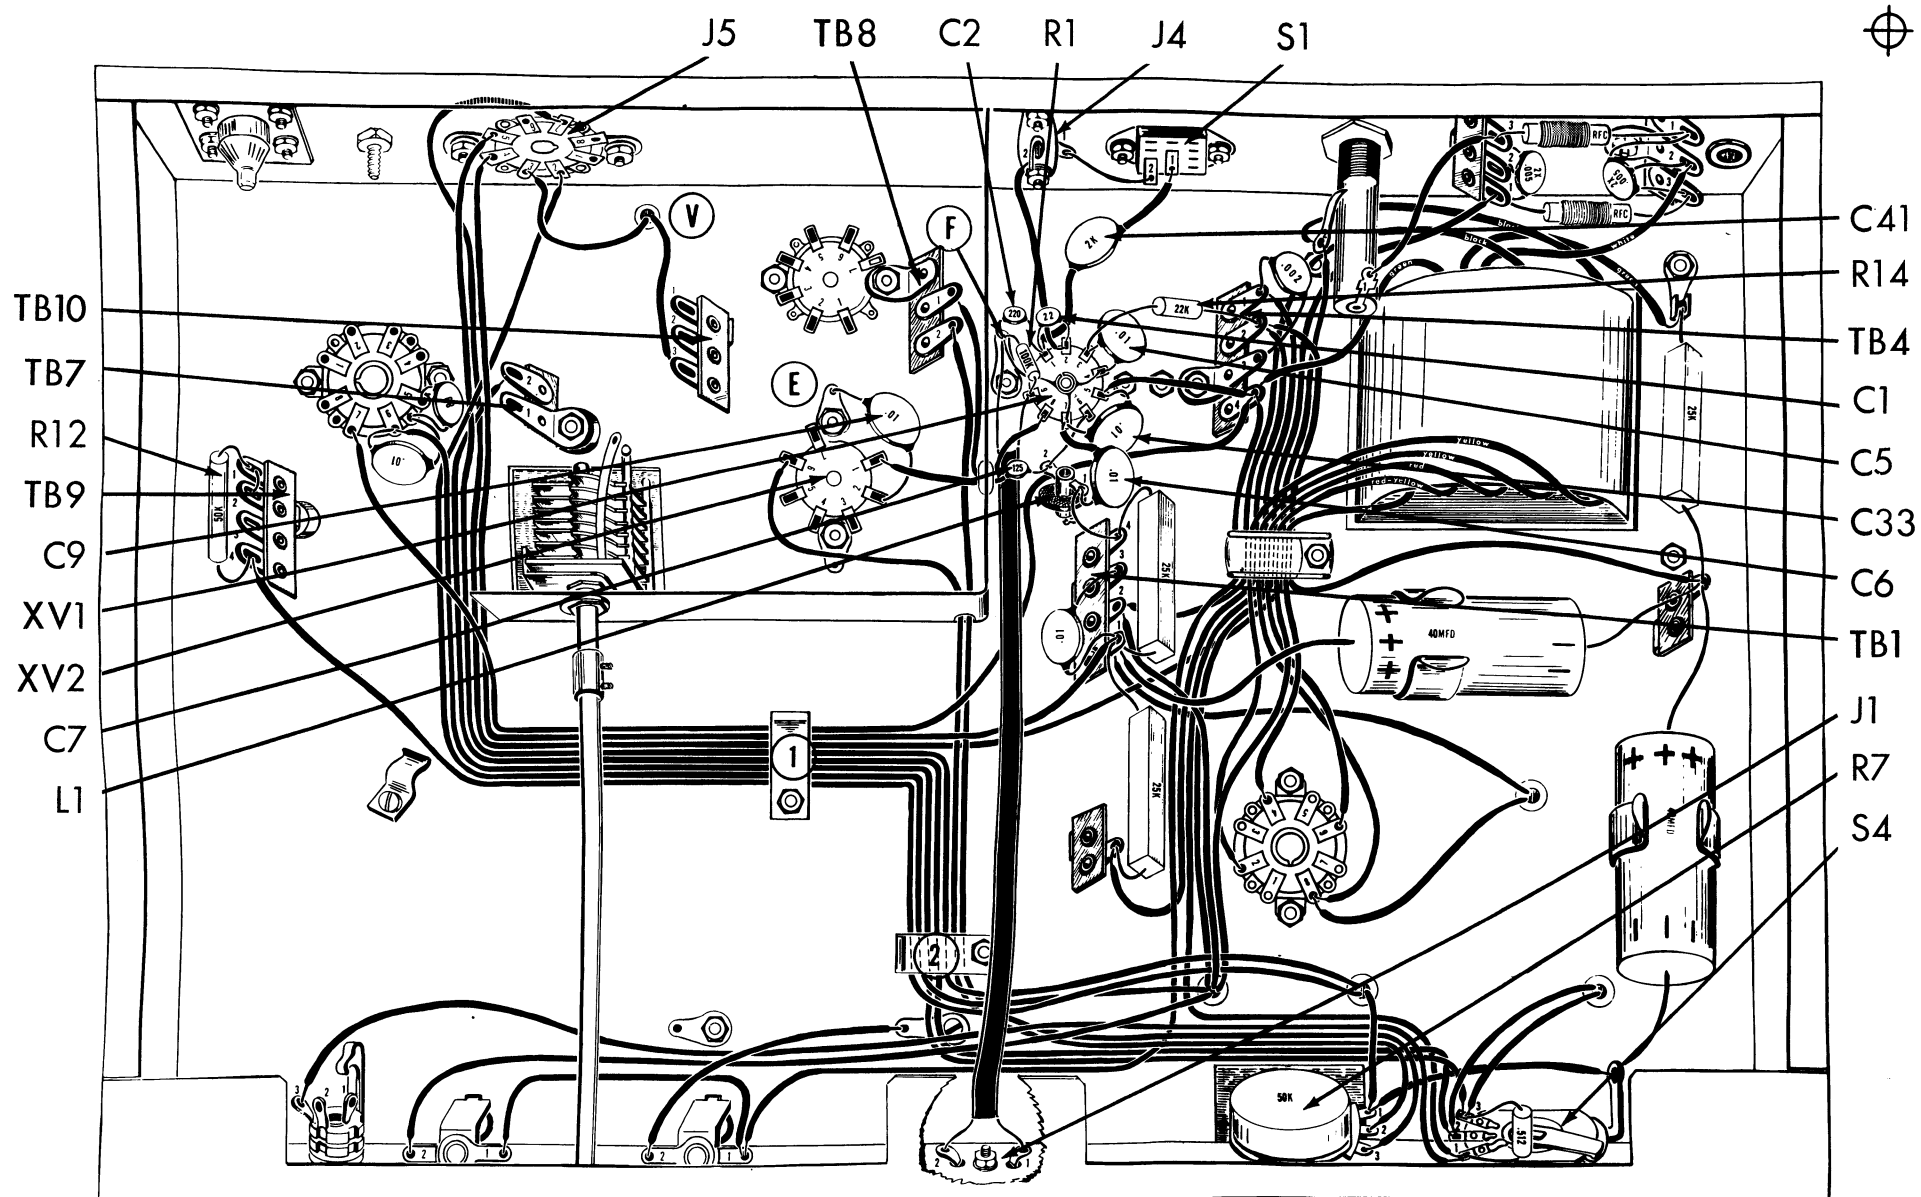

Fig. 6
1. (✓) Fig. 6. L1 is an 18 microhenry choke with a slug adjustment, previously mounted on the chassis next to XV1. The form holding the choke coil should be so oriented that one lug is close to TB1 and the second lug is close to pin 6 of XV1. Designate the lug near TB1 as L1-1 and the lug near XV1 as L1-2. Connect a 3/4" piece of bare wire from TB1-4 (S2) to L1-1 (C). Connect a second 3/4" piece of bare wire from L1-2 (C) to XV1-6 (S).
2. (✓) Fig. 6. Cut both leads on a .01 mfd (10K or 10,000 mmf) disc capacitor, C9, to 3/4". Cover each lead with a 1/2" piece of spaghetti. Connect from XV2-2 (C) to ground lug "E" (C).
2a. (✓) Fig. 6. Prepare a piece of 300 ohm twin line wire as follows. Cut an 8 1/2" piece of the dual wire. On one end, cut out the insulation for a 1 1/4" length between the two conductors, without removing the insulation from around the conductor. Then strip back the insulation 1/4" from the end of one of these conductors and connect this to ground lug "F" (C). On the same end of the wire, cut the second conductor to a 3/4" length and strip the insulation back 1/4". Connect this to XV1-9 (C). On the other end of the same piece of dual wire, cut out the insulation for a 3/4" length between the two conductors without removing the insulation from around the conductor. Strip back the insulation 1/4" from the ends of both of these conductors. Without twisting the twin line, connect one of these conductors to J1-1 (S1) and the second conductor to J1-2 (S1). DO NOT apply excess heat or insulation will melt.
3. (✓) Fig. 6. Cut one lead on a 125 mmf disc capacitor, C7, to 1/2". Connect this end to L1-2 (S2). Cut the other lead to 1 3/4". Cover this lead with a 1 1/2" piece of spaghetti. Push this lead through the hole in the side of the bottom shield and connect to XV2-1 (C).
4. (✓) Fig. 6. Cut all leads on two .01 mfd (10K or 10,000 mmf) disc capacitors, C5 and C33, to 1/2". Connect one from XV1-3 (C) to XV1-4 (C). Connect the second from XV1-5 (C) to XV1-7 (C).
5. (✓) Fig. 6. Cut both leads on a .01 mfd (10K or 10,000 mmf) disc capacitor, C6, to 3/4". Connect one lead to L1-1 (S2). Cover the second lead with a 1/2" piece of spaghetti and connect to XV1-7 (C).
6. (✓) Fig. 6. Connect a 1 1/2" piece of green wire from TB4-4 (S4) to XV1-5 (S2).
7. (✓) Fig. 6. Cut both leads on a 22K Ω (red, red, orange, silver) 1 watt resistor, R14, to 3/4". Connect from TB4-2 (S3) to XV1-3 (S2).
8. (✓) Fig. 6. Cut both leads on a 220 mmf disc capacitor, C2, to 1/2". Connect from XV1-1 (C) to ground lug "F" (C).
9. (✓) Fig. 6. Cut both leads on a .002 mfd (2K or 2000 mmf) disc capacitor, C41, to 1". Cover both leads with a 3/4" piece of spaghetti. Connect from S1-1 (S1) to XV1-1 (C).
10. (✓) Fig. 6. Connect a 3/4" piece of bare wire from S1-2 (S1) to J4-1 (S1).
11. (✓) Fig. 6. Connect a 2 1/4" piece of yellow wire from J4-2 (S1) to XV1-2 (C).
12. (✓) Fig. 6. Connect a 3/4" piece of bare wire from the center pin (C) on XV1 to ground lug "F" (C).
13. (✓) Fig. 6. Cut both leads on a 100K Ω (brown, black, yellow, silver) resistor, R1, to 1/2". Connect from XV1-9 (S2) to ground lug "F" (S4). DO NOT apply excess heat or twin lead insulation will melt.
14. (✓) Fig. 6. Cut both leads on a 22 mmf disc capacitor, C1, to 1/2". Connect from XV1-2 (S2) to XV1-1 (C).
15. (✓) Fig. 6. Connect one end of a 3" piece of yellow wire to XV1-8 (S1). Run through the hole in the side of the bottom shield and connect the other end to TB8-1 (C).
16. (✓) Fig. 6. Connect a 3/4" piece of bare wire from the center pin (C) on XV1 to XV1-4 (S2).
17. (✓) Fig. 6. Connect a 3/4" piece of bare wire from the center pin (S3) on XV1 to XV1-7 (S3).
18. (✓) Fig. 6. Connect a 3/4" piece of bare wire from TB9-1 (C) to TB9-2 (S1).
19. (✓) Fig. 6. Cut both leads on a 50K Ω , 10 watt, wire-wound resistor, R12, to 3/4". Connect from TB9-1 (C) to TB9-4 (C).
20. (✓) Fig. 6. Connect the orange lead from hole "V" to TB10-3 (C).
21. (✓) Fig. 6. Connect the red lead from hole "V" to J5-3 (C).